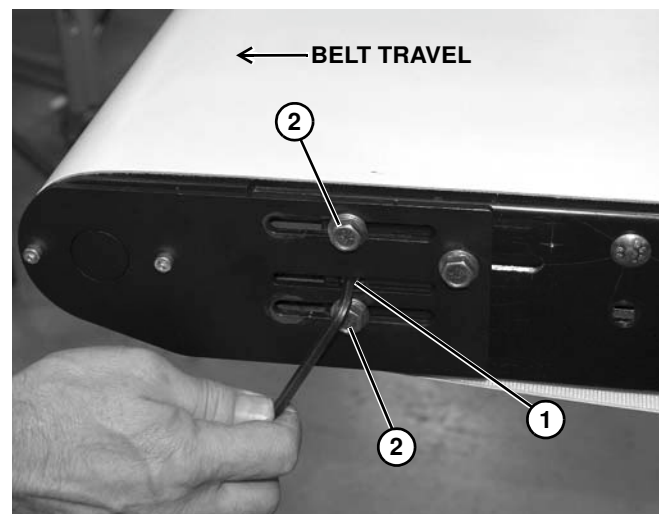

Figure 98
2. With the conveyor running, use a 5 mm hex-key wrench to rotate the tracking cam (**Figure 98, item 1**) in small increments until the belt tracks in the center of the conveyor. Then while holding the cam in position, re-tighten the two head plate fastening screws (**Figure 98, item 2**).